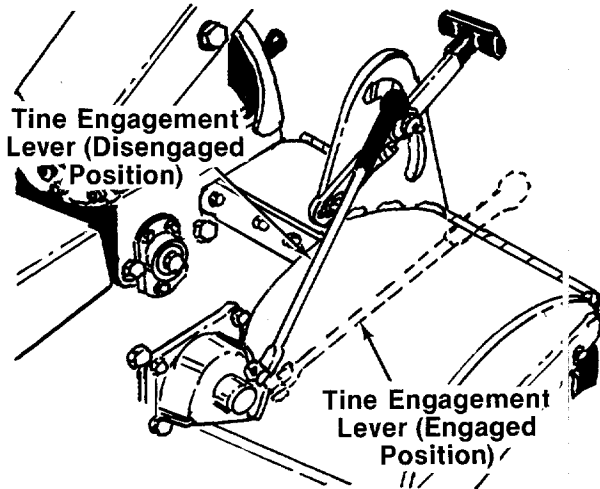

FIGURE 18.
To engage tines, move the lever outward. To disengage tines, move the lever inward. See figure 18.
2. Place the tine engagement lever in the disengaged position. See figure 18.